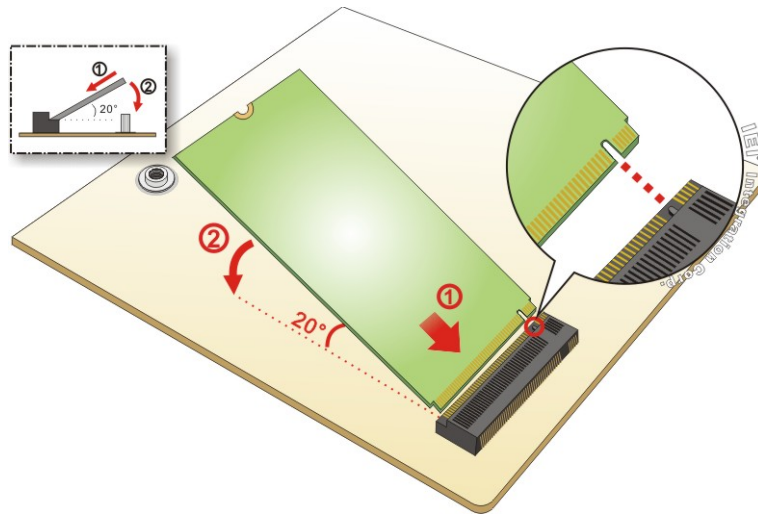

Figure 3-14: Inserting the M.2 Module into the Slot at an Angle
Step 4: Line up the notch on the module with the notch on the slot. Slide the M.2 module into the socket at an angle of about 20° (Figure 3-14).